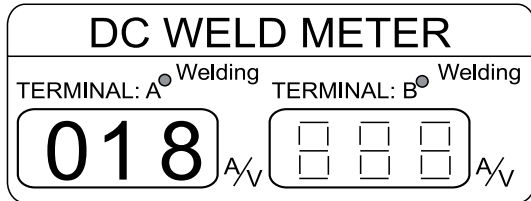

Figure 41. DC Weld Meter (18 VDC)
5. The selected voltage will be displayed on the DC weld meter (Figure 41).